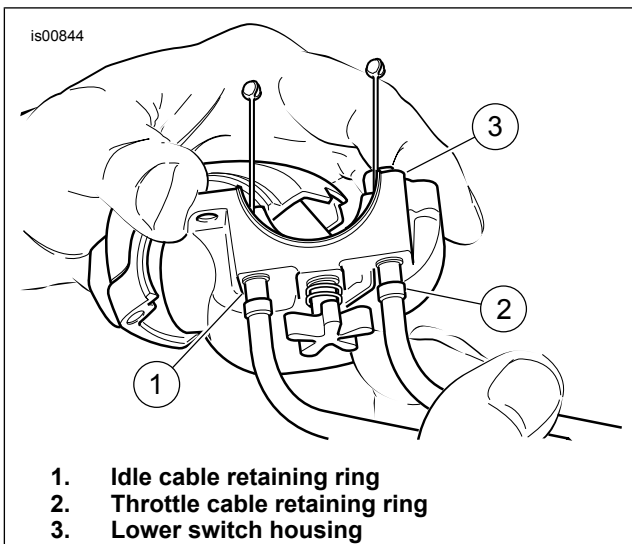

Figure 9. Install Cables to Lower Switch Housing
- See Figure 9. Push throttle cable housing and retaining ring into switch housing larger hole, located in front of tension adjuster screw.